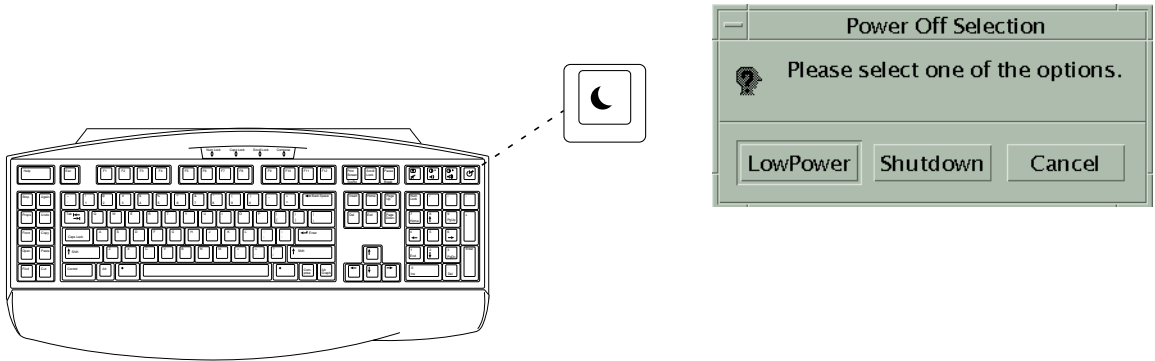

FIGURE 5 Sun USB Type-6 Keyboard Power Key and Power Off Selection Dialog Box
1. Press the Sun™ Type-6 USB keyboard Power key (see FIGURE 5).